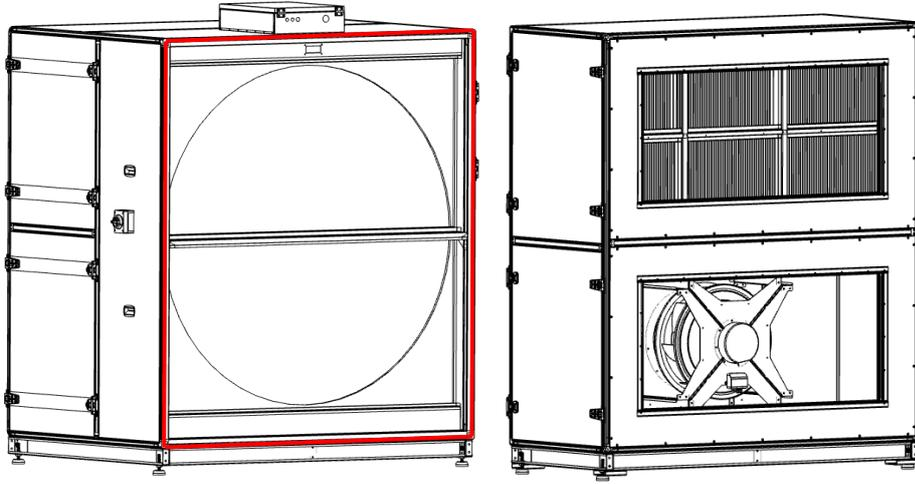

Fig. 8
- Before assembling the modules, apply gasket between adjacent modules (Fig. 8)